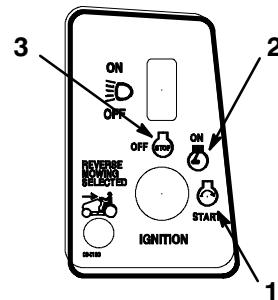

Figure 9
5. Turn the ignition key clockwise and hold it in the "START" position (Fig. 9). When the engine starts, release the key.
2. Turn the ignition key to “OFF” and remove the key (Fig. 9).